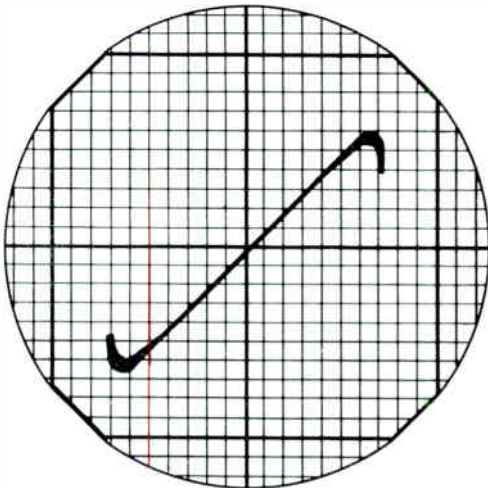

Figure 5. — Primary Set To Center Frequency
5. Remove the short from pin 2 of the oscillator tube, and adjust trimmer condenser C1 for a hooked curve, as shown in figure 5.